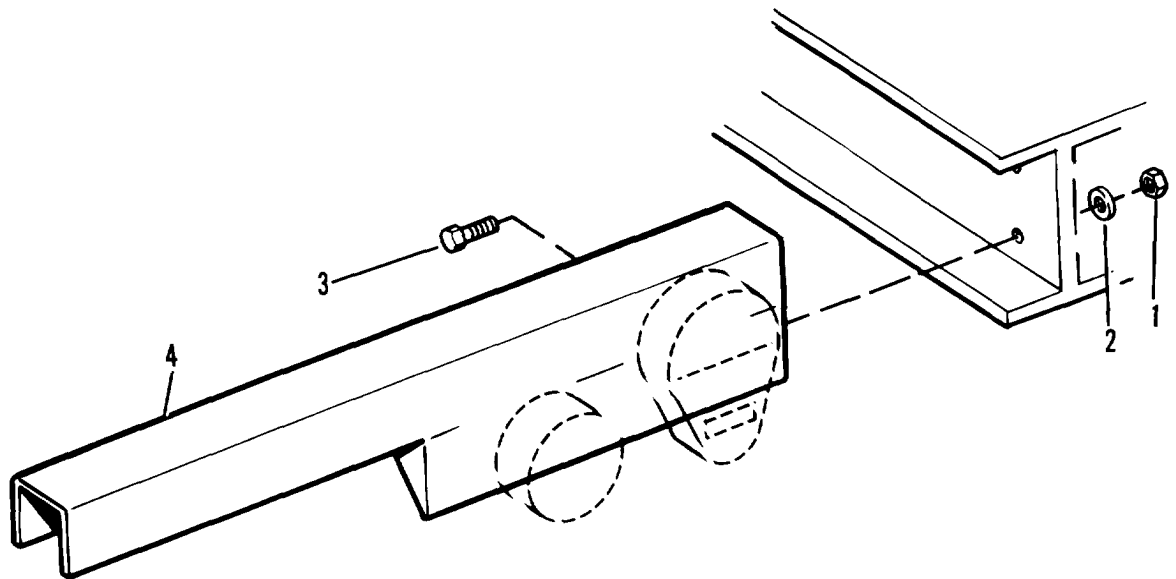

Figure 4-55. Taillight bracket
(1) Remove two nuts (1, figure 4-55), washers (2) and bolts (3).
(2) Remove taillight bracket (4).
(1) Install taillight bracket (4, figure 4-55) and secure with two bolts (3), washers (2) and nuts (1).
(2) Install splash guard (para. 4-57).
(3) Install 12 and 24 volt taillights (paras. 4-17 and 4-18).